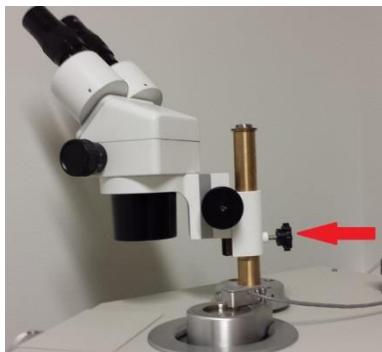
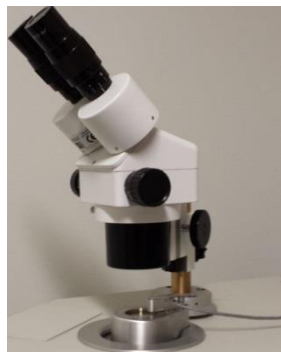

Figure 14a
Figure 14b
14. To view the sample during milling, use the microscope attached on the top of the Fischione. Loosen the knob on that is attached to the microscope post (**Figure 14a**), and rotate the microscope over the viewing window (**Figure 14b**). Turn on the light with the button “**Light On**” which is located underneath the “**Close/Open Shutter**” button. The shutter must be open to view the sample during milling.